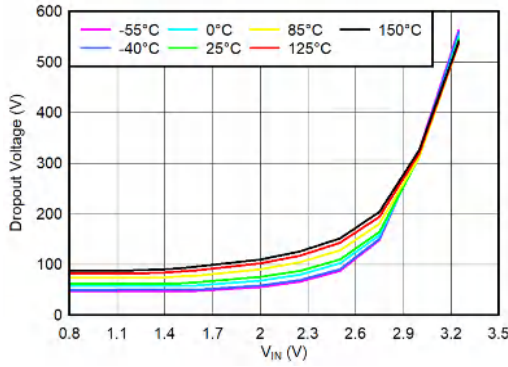

图 6-29. V_{IN} Dropout Voltage vs V_{IN} and Temperature (T_J) for $I_{OUT} = 1.5\text{ A}$
- (1) Adjustable devices tested at 0.8 V; resistor tolerance is not taken into account.
(2) Dropout is defined as the voltage from V_{IN} to V_{OUT} when V_{OUT} is 3% below nominal.
(3) 3.25 V is a test condition of this device and can be adjusted by referring to Figure 6-29.